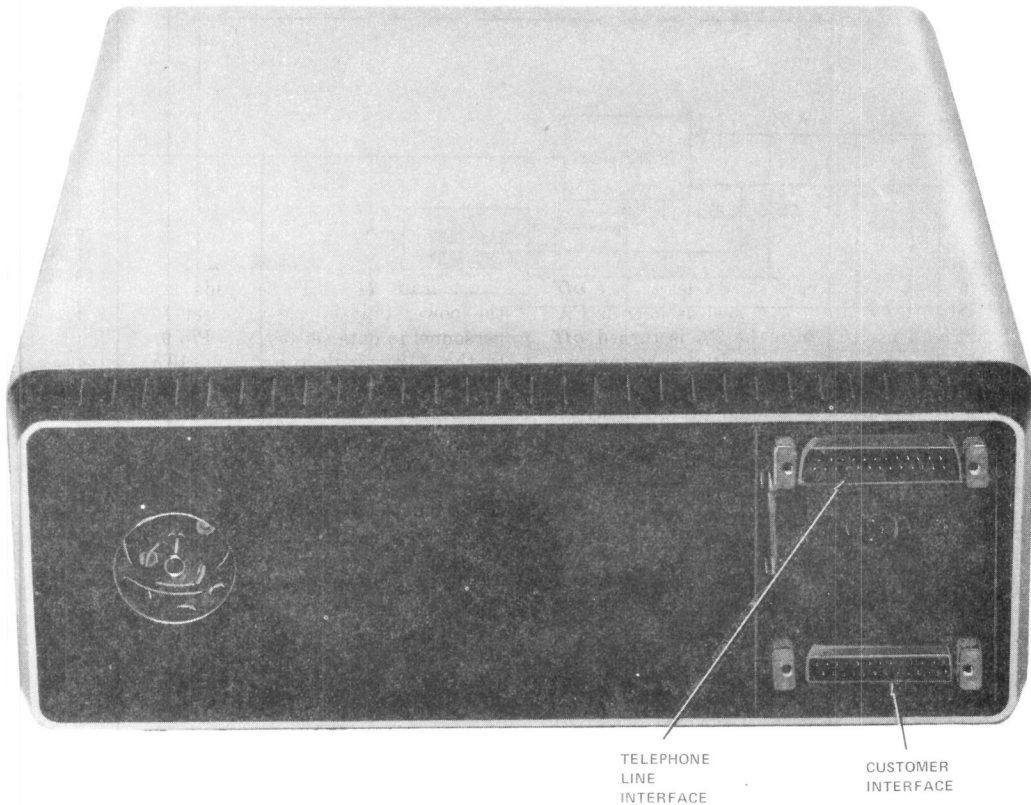

Fig. 5—DS 201C-L1D/2/4/5—Rear View
**3.12** The customer interface is accessible through the CUST INT connector at the rear of the data set (Fig. 5). The connector pin numbers and the corresponding lead designations are shown in Table A. A detailed description of these leads is contained in the following paragraphs:
**3.29** The telephone line interface is accessible through an unlabeled connector at the rear of the data set (Fig. 5). The connector pin numbers and the corresponding lead designations are shown in Table B. A detailed description of these leads is contained in the following paragraphs: